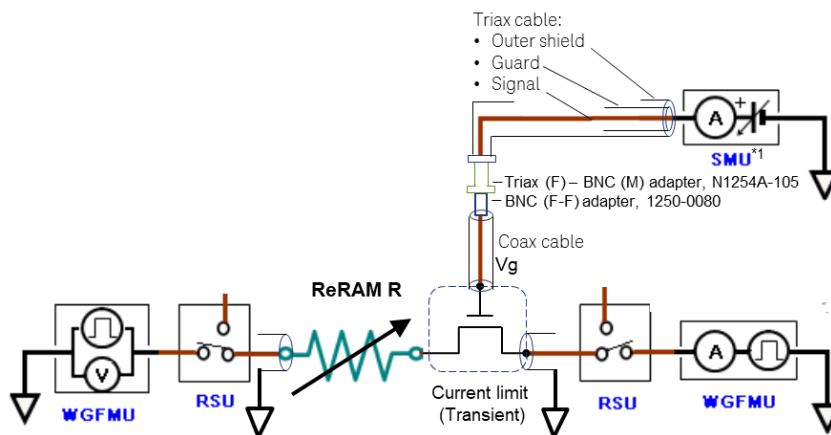
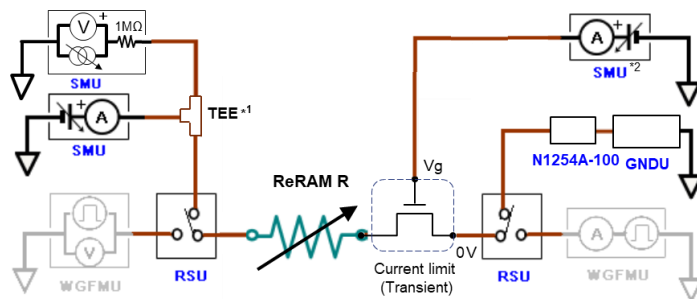
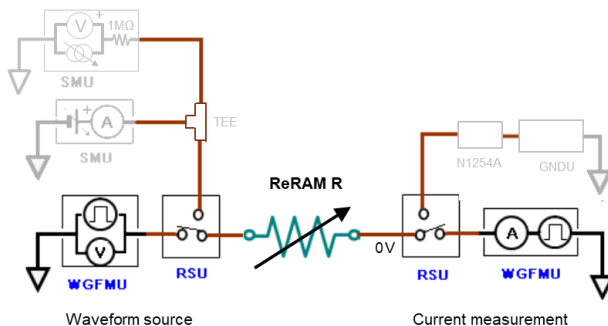
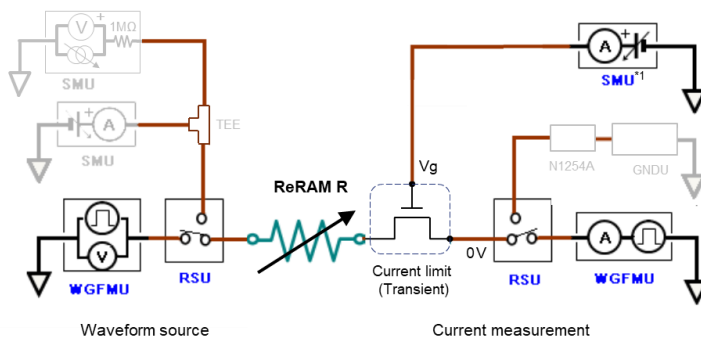

Figure 2-3. SMU connection using a coax cable to the current limit transistor.
Figure 2-5. Optional current limit configuration for IV - Butterfly curve measurement.
Figure 2-11. Standard configuration for FORM measurement.
Figure 2-12. Optional current limit configuration for FORM measurement.
Figure 2-3 shows the connection example of the ReRAM device and current limit transistor using the coax cable. The Triax cable from the SMU is converted at the close point of the V_g transistor to the coax cable using two adapters; 1) Triax (F) - BNC (M) adapter, N1254A-105, and 2) BNC (F-F) adapter, 1250-0080, then the coax cable is connected to the transistor.
Using this configuration, the output voltage of V_s of the V_s -SMU under the current limit condition, when the ReRAM device is turned on, can be measured by the V_m -SMU which is used as a voltage measurement mode. The internal $1\text{ M}\Omega$ output resistor is set to increase the input impedance in the high frequency range which is useful, for example, when the device impedance suddenly changes. The connection diagram of the optional current limit configuration is shown in Figure 2-5. Refer to Figure 2-3 when connecting the SMU to V_g terminal of the current limit transistor.
WGFMU RSUs are used in the FORM measurement application test as shown in Figure 2-11.
The connection diagram of the optional current limit configuration is shown in Figure 2-12. Refer to Figure 2-3 when connecting the SMU to V_g terminal of the current limit transistor.
Configure the connection setup and connect your device by referring to the connection diagram on the GUI. Refer to Figure 2-3 when connecting the SMU for V_g .
Refer to the relevant section of the ReRAM FORM measurement configuration. For standard configuration, refer to Figure 2-11. For the optional current limit configuration, refer to Figure 2-12.